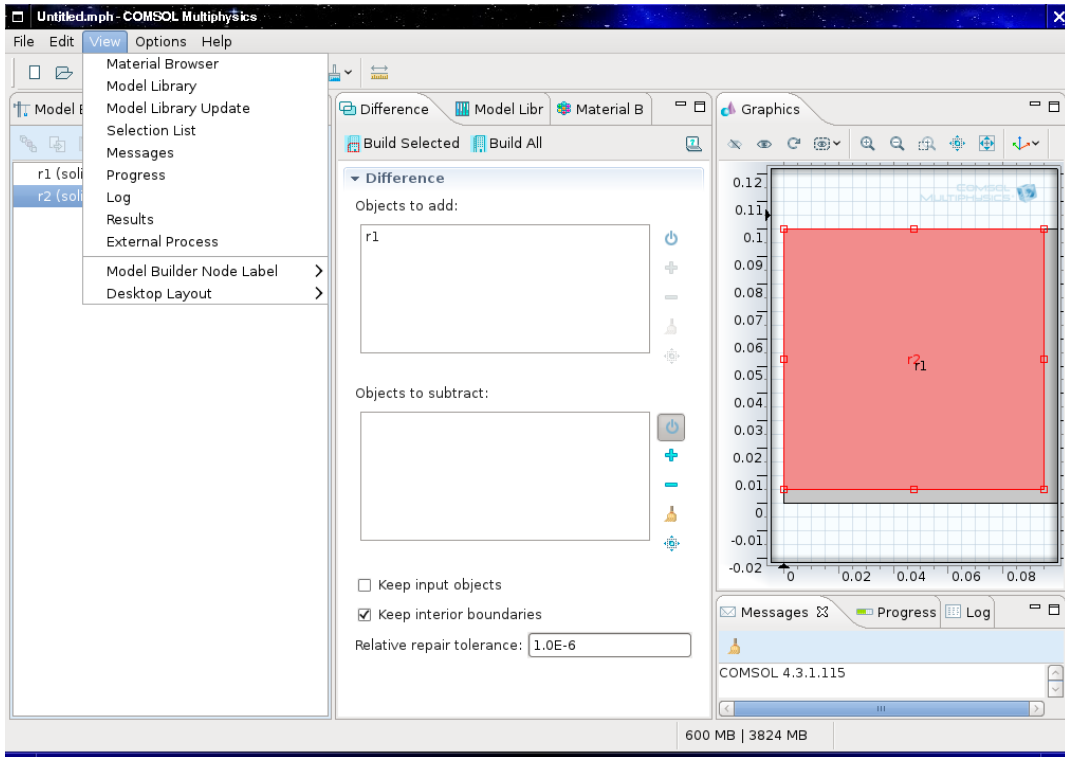

Figure 13: Subtraction of the objects.
**Select View** → **Select List** →  $r2$  (solid) → **right button:  $r2$  (solid)** (Fig. 13);